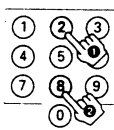

Fig. 2
- (e.g. channel 28, see Fig. 2)